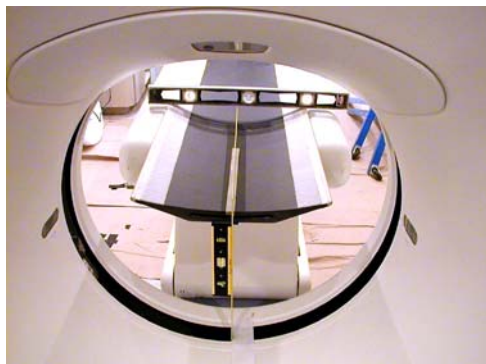

Figure 1-30 Place level across cradle
- 4.) Use a 2 ft level to check the cradle level from side to side. Level the cradle using the table front level adjusters #8 and #9 (see Figure 1-30).